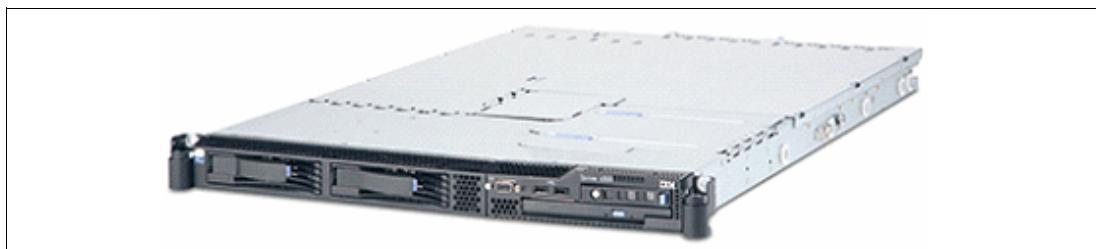

Figure 3-20 SSPC hardware
SSPC can be ordered as a software (SW) package to be installed on the customer's hardware or can be ordered as Model 2805, which has the software pre-installed on an System x3550 with a Quad Core Intel Nahalem-EP processor (2.4 Ghz) with 8 GB of memory running Windows Server 2008 (see Figure 3-20).